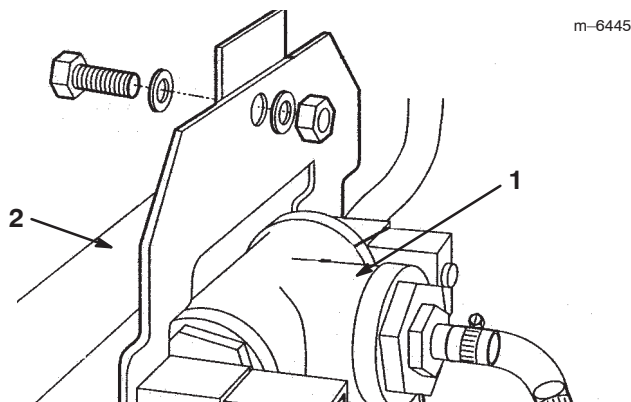

Figure 27
5. Mount the mixer assembly to the angle on the center boom assembly with a bolt (3/8 x 1 inch), flat washer, and a locknut (Fig. 27).